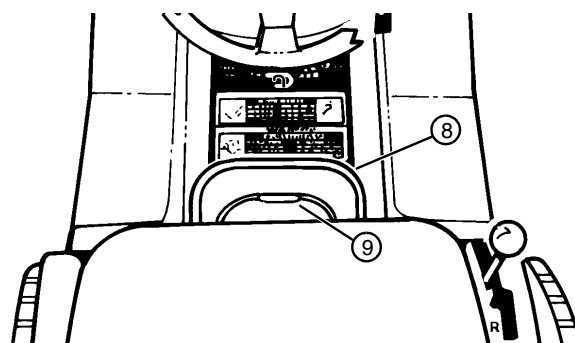

FIG. 17
- Push down deck lift lever (8) slightly and hold locking lever (9) down with thumb. (See FIG. 17)